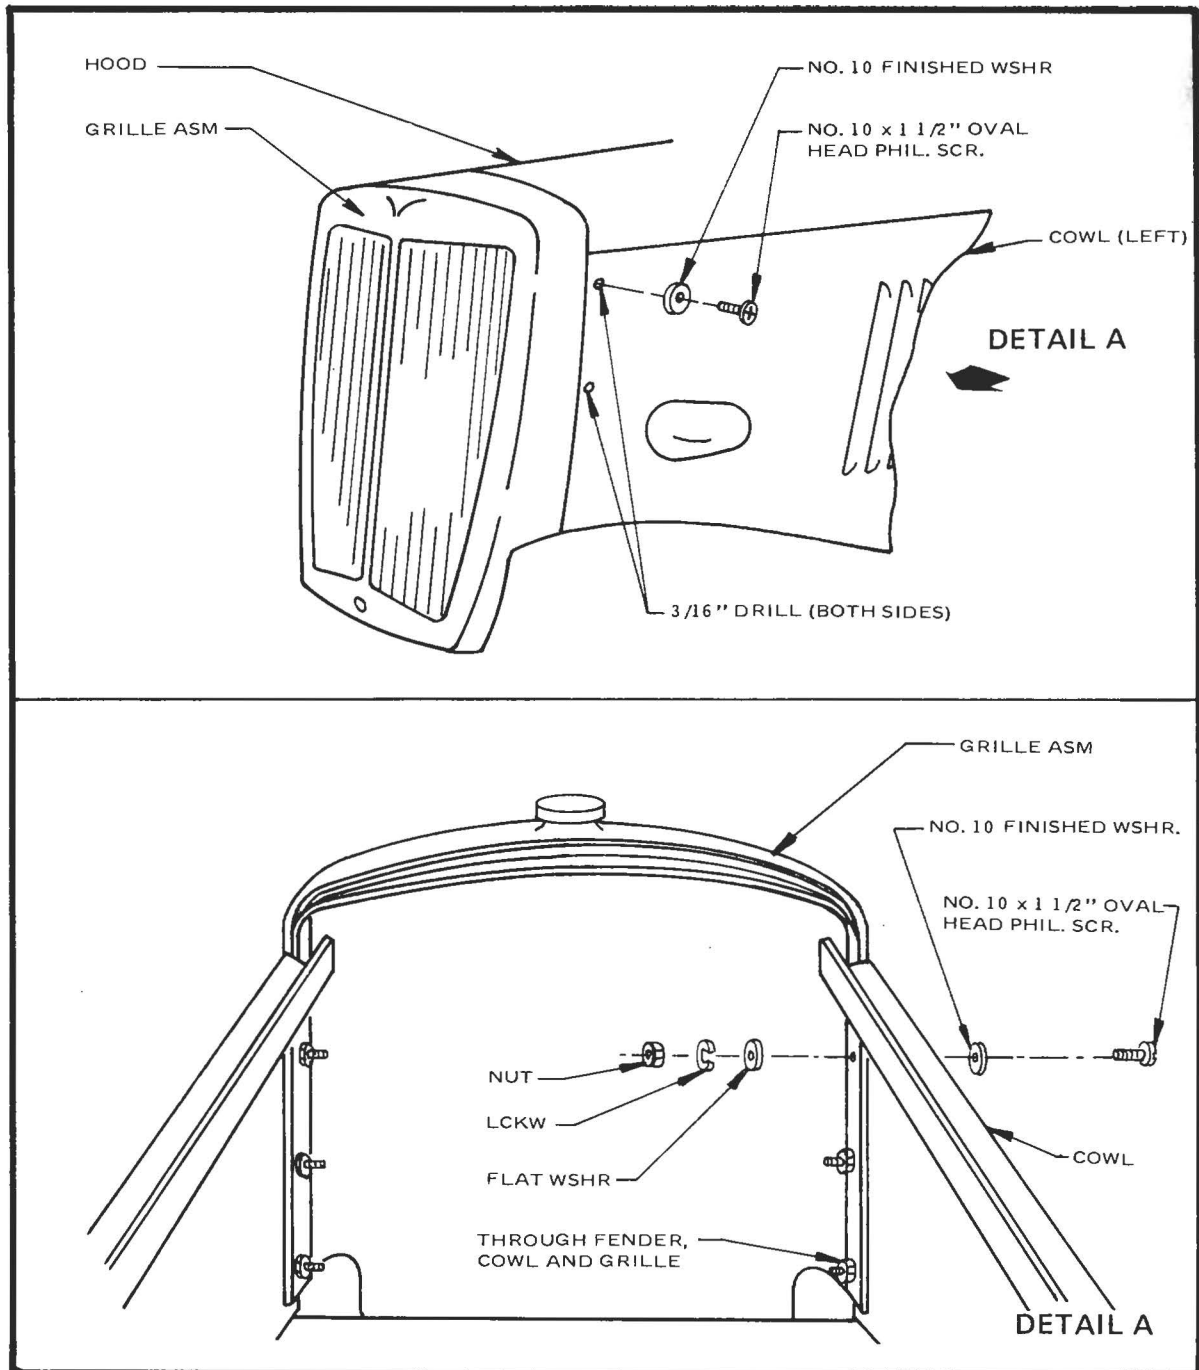

Figure 24
- ☐ Insert liner into assembled chrome shell. (Refer to Figure 24) Working through the rectangular holes on each side of the chrome shell, scribe the outline into the fiberglass liner. Remove liner and cut out the rectangular holes in the fiberglass liner. Position one of the headlight support brackets into the rectangular slot of the fiberglass liner. When installed the tab should be angled straight out from the center line of the car, not from the shell. Mark the location of the screw holes. Drill 3/16" hole at the marked location. Insert 2 No. 10 x 1" screws into the liner from the outside. Slide the headlight support over the screws and bolt, using nuts, flat washers and lock washers. Repeat for opposite side.
- Slide the grille into place. Pull the grille assembly up as far as possible until shell contacts hood. (Figure 24). It may be necessary to further sand hood or cowls for a good fit where it contacts the grille shell. Hold shell in place and drill through the upper holes in cowl and grille shell ($3/16''$). Remove grille shell and hood clamps. Realign grille shell with cowls. Insert No. 10 x $1\frac{1}{2}''$ oval head phillips screws with finishing washers. Using washers, lock washers and nuts, secure grille to body. Drill and bolt through lower hole in front part of fender.